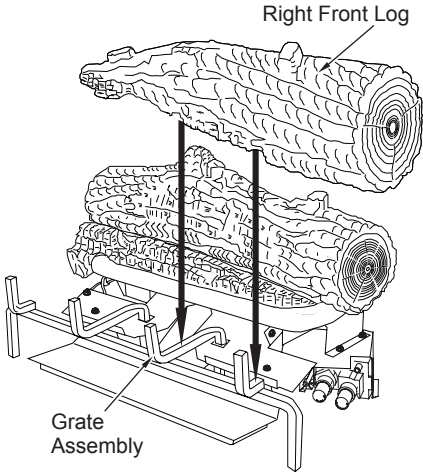

Figure 51 - Installing Right Front Log
3. Place the right front log onto the base and grate assembly as shown in Figure 51. The log has notches in the bottom for the grate.